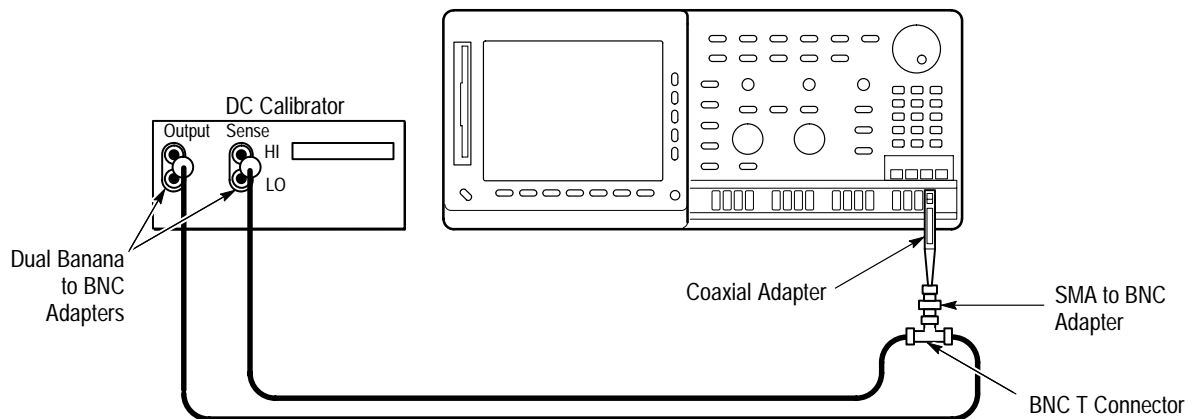

Figure 4–6: Test Hookup for DC Gain and Accuracy Tests
- b. Connect the output of the DC calibration generator through a dual-banana connector followed by a 50 Ω precision coaxial cable to one side of a BNC T connector. See Figure 4–6.
- c. Connect the Sense output of the generator through a second dual-banana connector followed by a 50 Ω precision coaxial cable to the other side of the BNC T connector. Now connect the BNC T connector to channel 1 through the SMA to BNC adapter and a coaxial adapter. See Figure 4–6.